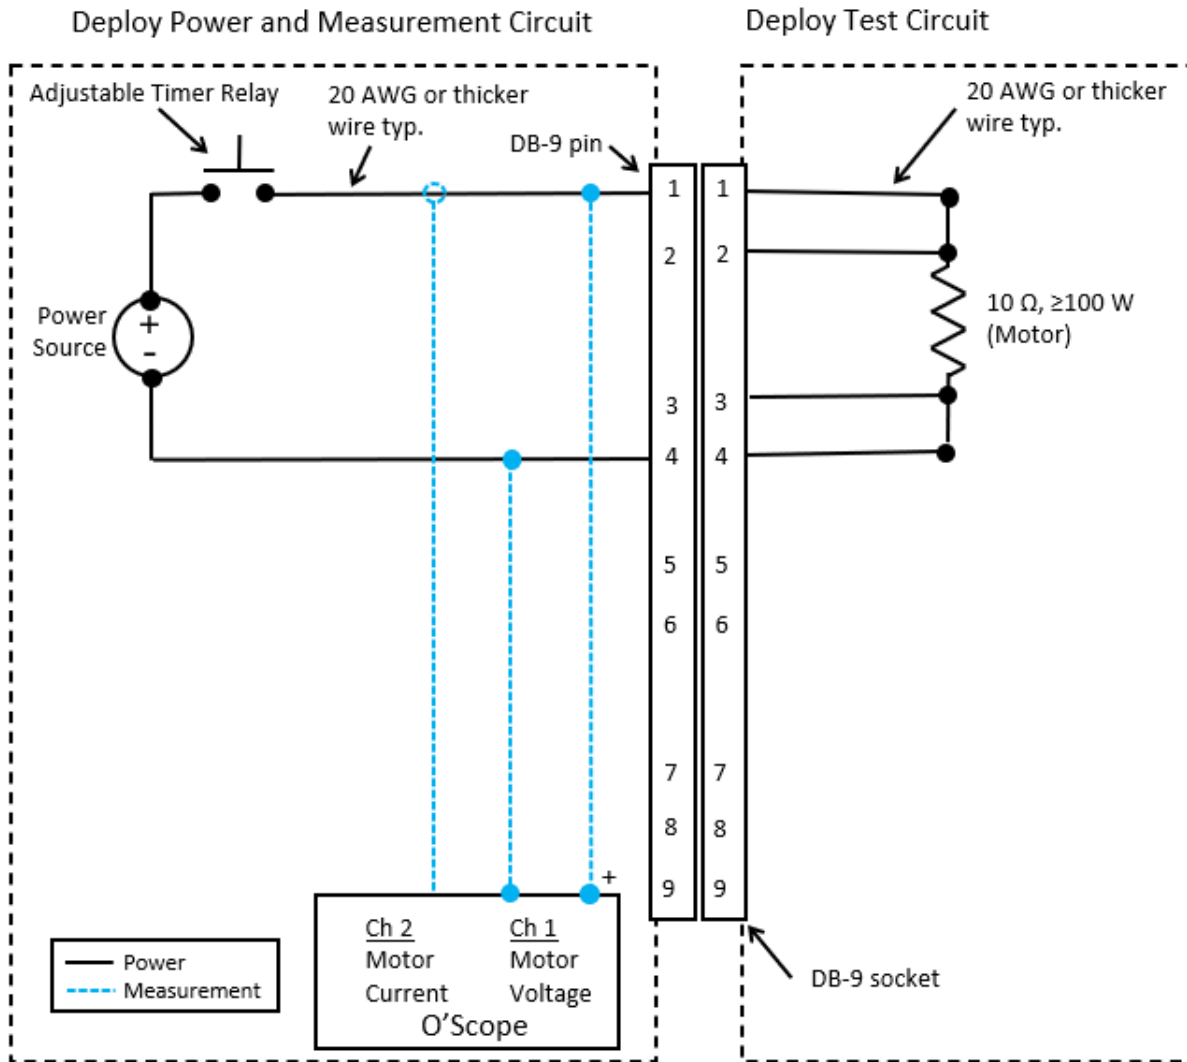

Figure 12-1: Deploy test circuit
12.1.2	Set up the deploy power and measurement and deploy test circuit per Figure 12-1. Connect the DB-9 connector of the power and measurement circuit to the DB-9 connector of the deploy test circuit.